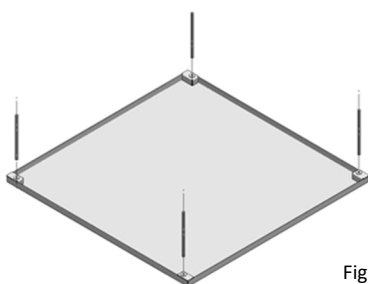

Fig. 5
5. Fasten the 4 threaded pins to the masking panel as shown on the illustration below. If the pins are too long they may be cut to an appropriate length (Fig. 5)